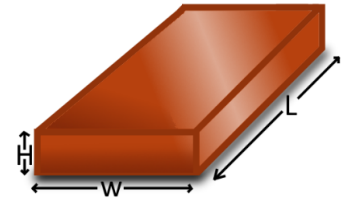

Figure 2.1: A visual representation of Work-piece
and (H) respectively in Fig 2.1. The Calculation was as follows: